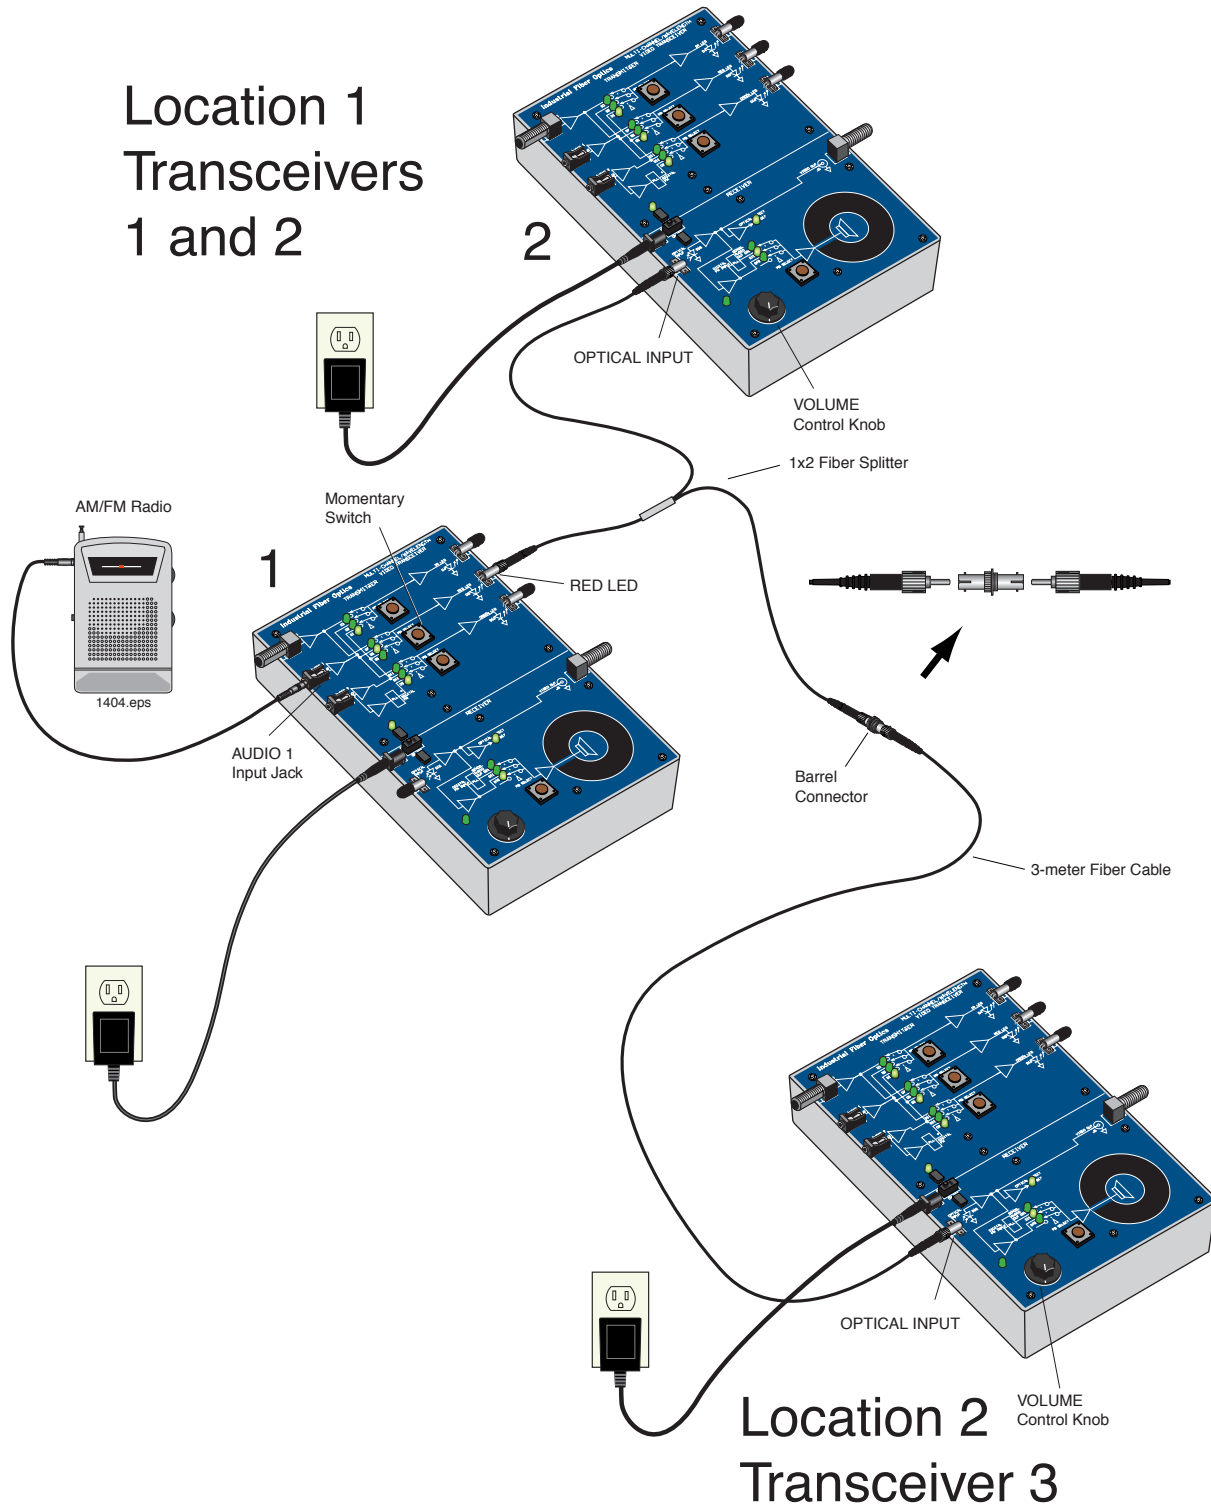

Figure 23. Equipment setup for demonstrating a fiber coupler in action.
3. Your equipment set-up in this experiment once assembled will look like the diagram in Figure 23. You may wish to refer to this figure as you complete the following steps.